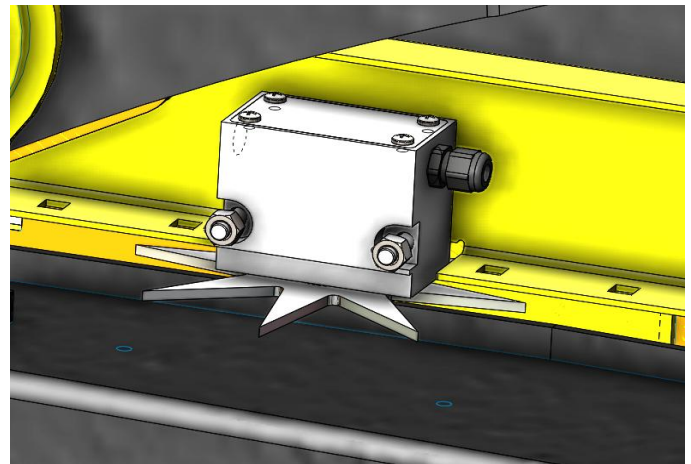

Figure 2
3. Position the star wheel mounting holes and mark the width of the star wheel 4" (112mm). As well as the depth of the star wheel of 2" (50mm). This piece will need to be removed from the baler bracket in order for star wheel to fit flush with baler bracket (Figure 2). After cutting touch up with paint to prevent rusting.